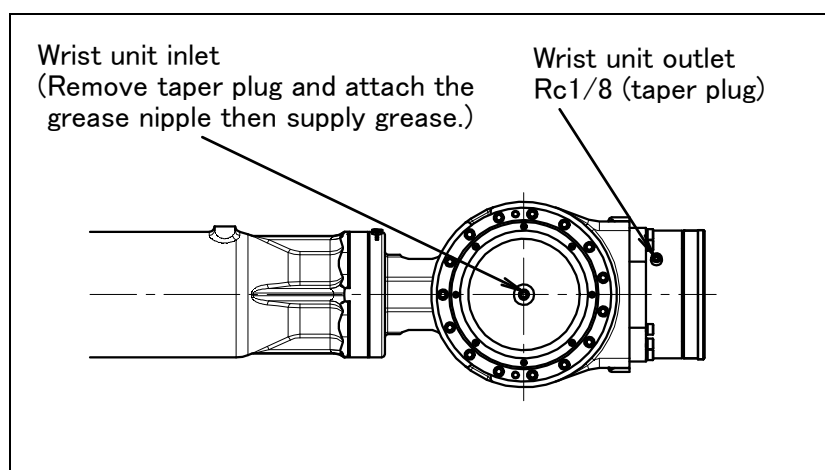

Fig. 7.3.5 Replacing grease of the wrist
- 3 Remove the plug with a sealant from the wrist grease outlet and attach the grease nipple that comes with the robot (Fig. 7.3.5).